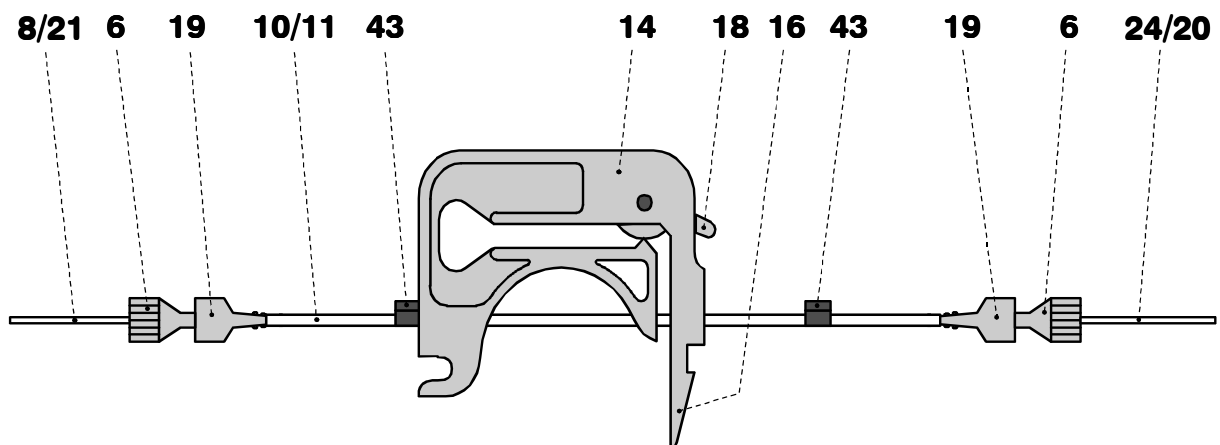

Abb. 10: Installing the pump tubing
- Insert pump tubings **10** and **11** in the tubing cartridges **13** as shown in *Fig. 10*. The black-black stopper **43** must click into the corresponding holder on the left-hand side of each tubing cartridge.
- Push coupling on to the inlet end of the pump tubing **10** (yellow/yellow, see *Fig. 10*).
- Push coupling **19** on to the outlet end of the pump tubing **10** (yellow/yellow) (see Fig. 10).
- Push coupling **19** on to the inlet end of the pump tubing **11** (orange/yellow) (see Fig. 10).
- Push coupling **19** on to the outlet end of the pump tubing **11** (orange/yellow) (see Fig. 10).